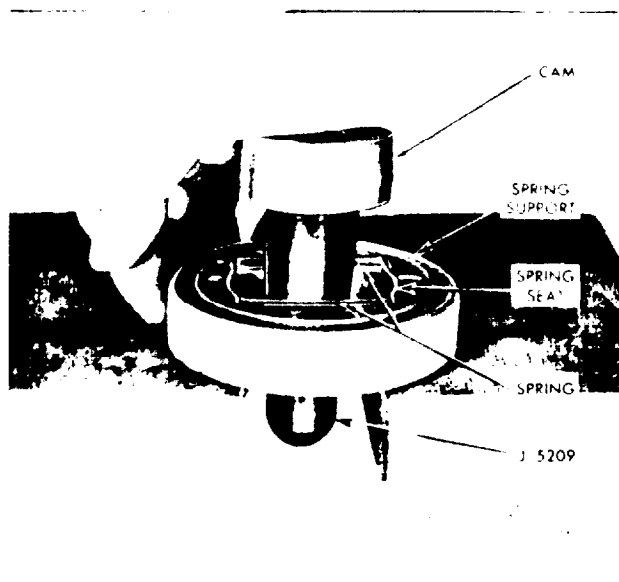

Fig. 17 Inserting Cam in Blower Drive Support
- a. Place the drive spring support on two blocks of wood (Fig. 17).